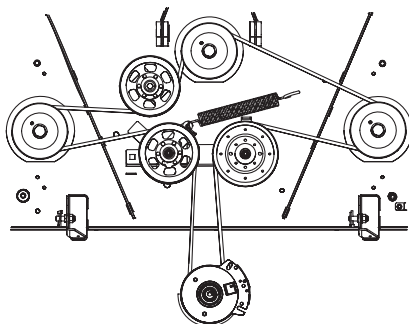

Figure 4-21
5. Install the new belt around the spindle pulleys as shown and reinstall the belt covers. See Figure 4-21.
7. Route the belt as shown in Figure 4-21 and then reinstall the deck. Refer to "Deck Installation" on page 20.